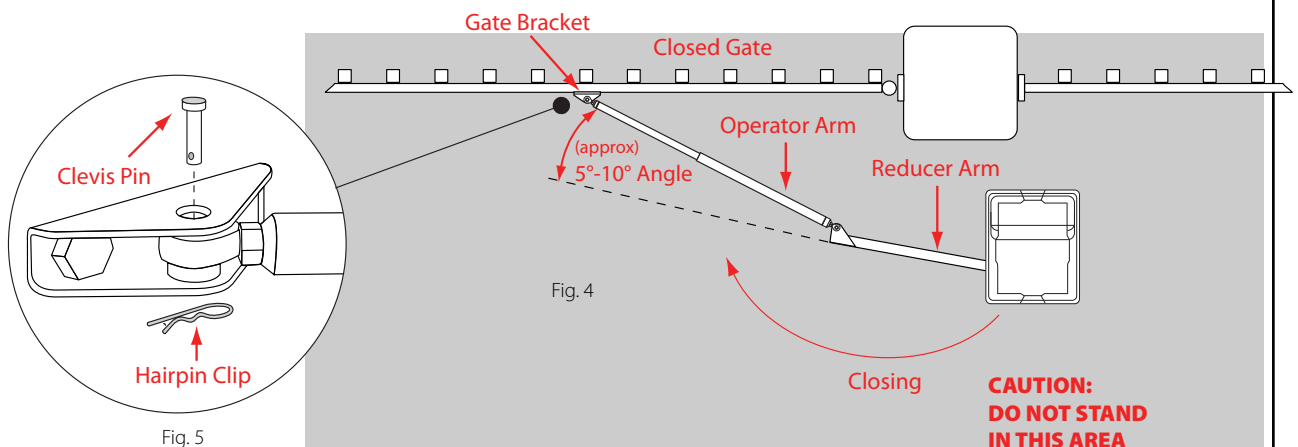

Fig. 5
9. Fit the end of the operator arm into the gate bracket and attach using clevis pin and hairpin clip. (Fig. 5)
**NOTE:** Gate Arm's length can be adjusted by rotating the gate arm's tube before mounting it to the gate bracket. (Fig. 5)